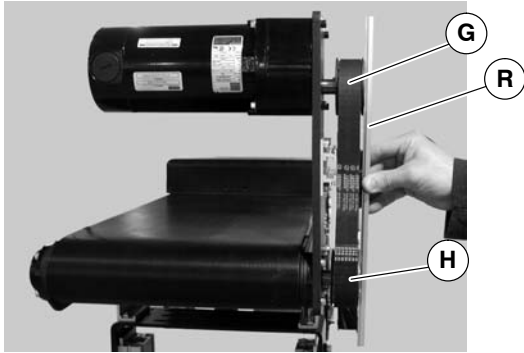
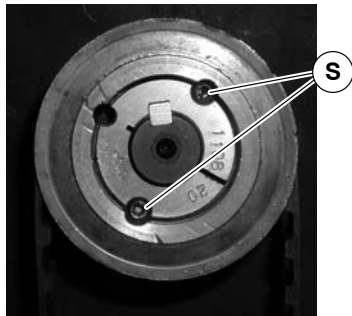

Figure 6
Figure 7
5. Wrap timing belt (F) around driven pulley (H) and drive pulley (G). Install driven pulley (H) onto conveyor shaft.
6. Using a straight edge (R of Figure 6), align driven pulley (H) with drive pulley (G). Tighten driven pulley taper-lock screws (S of Figure 7).
NOTE: If timing belt does not slide over pulley flange, loosen driven pulley taper-lock screws (S of Figure 7 & 11) and remove pulley with belt (F). For re-installation, see steps 5 and 6 on page 6.